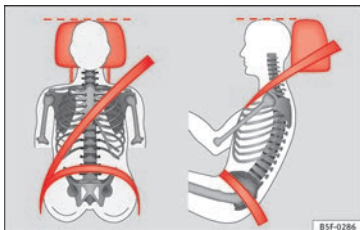

Fig. 94 Correctly adjusted head restraint as viewed from the front and the side.
- Adjust the head restraint so that its upper edge is, as far as possible, at the same level as the top of your head, or at the very least, at eye level » **Fig. 94.**